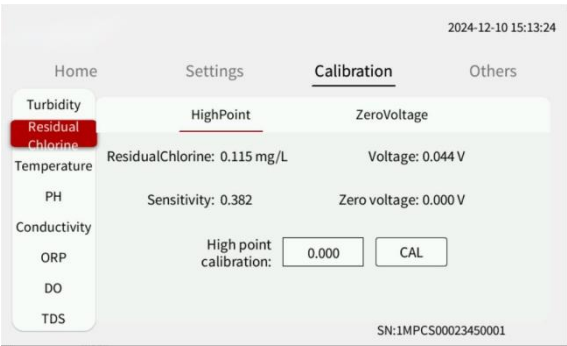

Fig.7 High Point Calibration Display
- 3) Repeat the step for 2 times, test for 3 times in total, and take the average value under the condition that the test values of the 3 times do not change much; if the change range is large, the possible reasons are as follows: ① the residual chlorine changes greatly, and test again after it is stable; ② there is an abnormal value, discard the test data, and take water again for testing;
4) Input the average value of the water sample measured by the handheld device into the high point edit box, and click calibration, as shown in Fig.7.